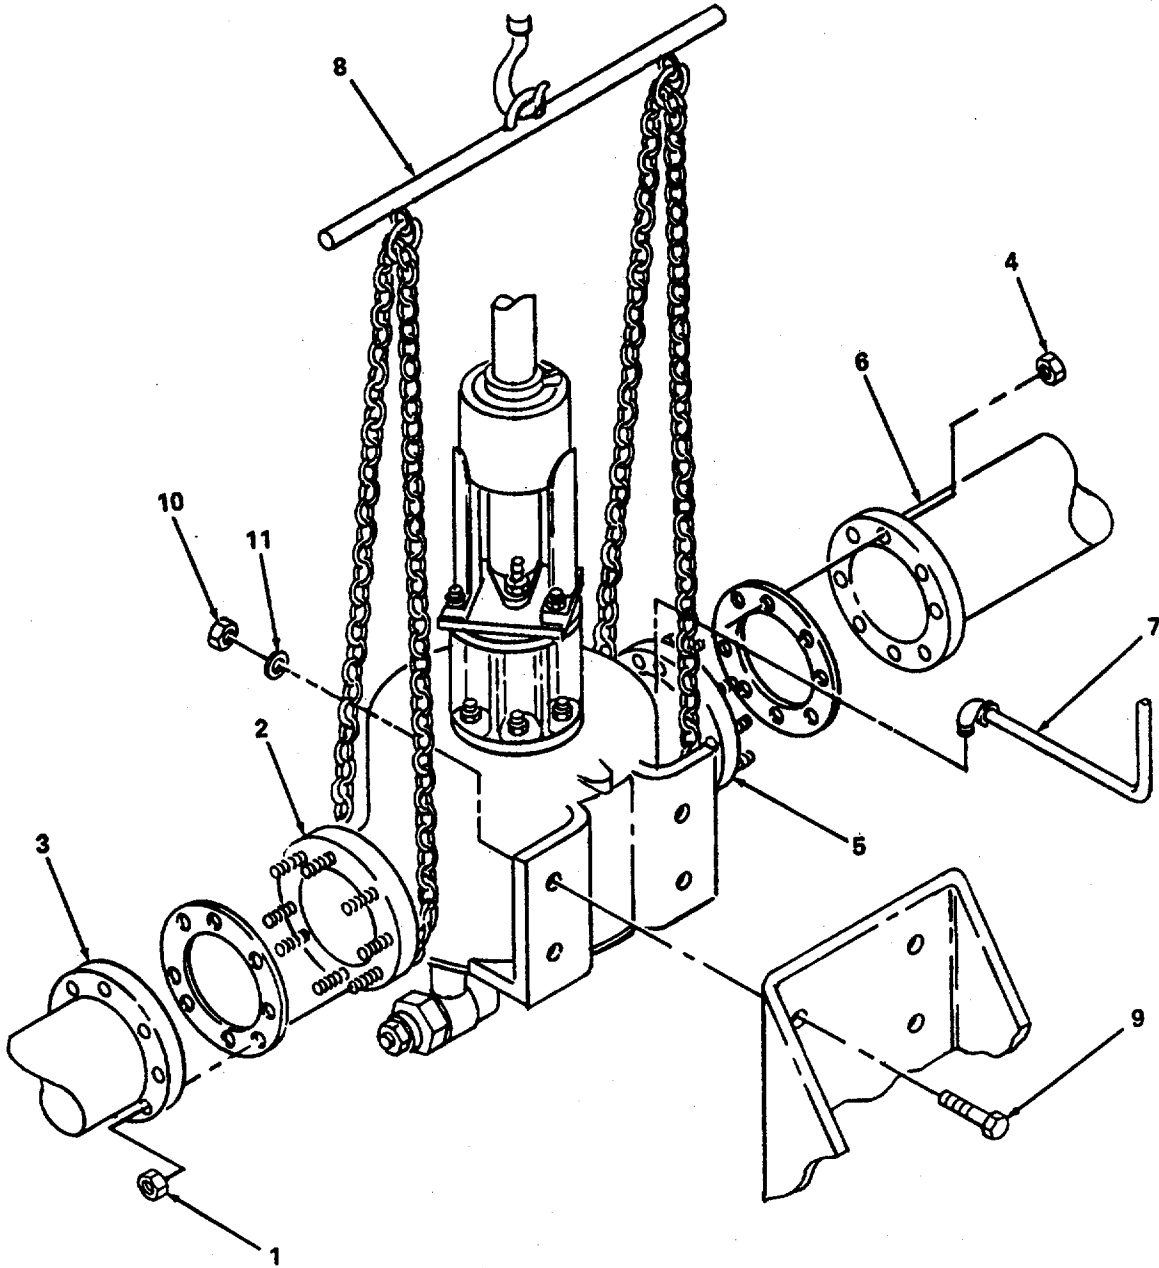

Figure 5-17. Cargo Transfer Pump Removal.
- (2) Disconnect pump from associated piping.
- (a) Remove eight nuts (1, figure 5-17) securing suction port flange (2) to associated cargo transfer piping (3).
- (b) Remove eight nuts (4) securing discharge port flange (5) to associated cargo transfer piping (6).
- (c) Unscrew and remove pipe fitting (7) from pump jacket.
- (3) Remove pump from mounting.